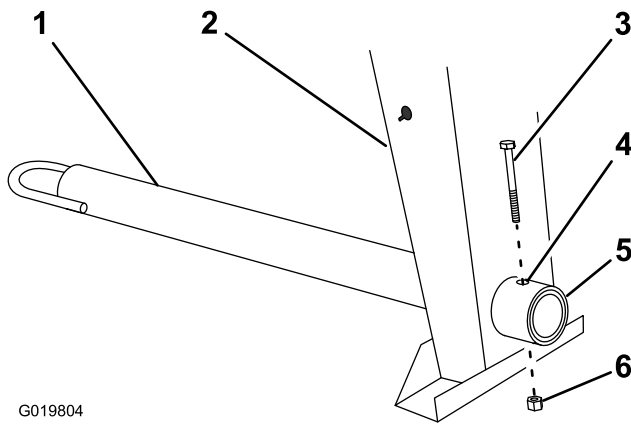

Figure 4
1. Remove the bolt and nut from the tow pole (Figure 4).
2. Slide the tow pole forward and align the hole in the pole with the hole in the frame fitting (Figure 4).
3. Insert the bolt through the holes in the fitting and the pole (Figure 4).
4. Thread the nut onto the bolt and tighten them until they are tight against the frame fitting (Figure 4).